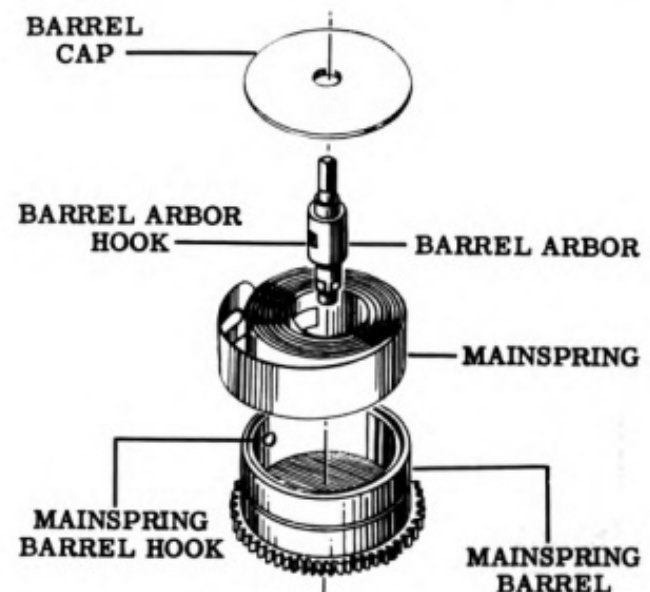

Figure 78
11. Wind the mainspring into the barrel using the special mainspring winder, Tool No. 9A. Oil the mainspring according to instructions in the Control Manual. For positions of the mainspring barrel components, see Fig. 78.